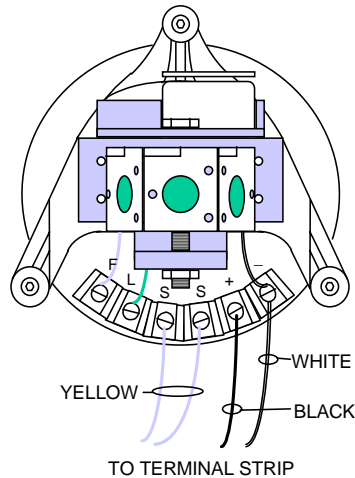
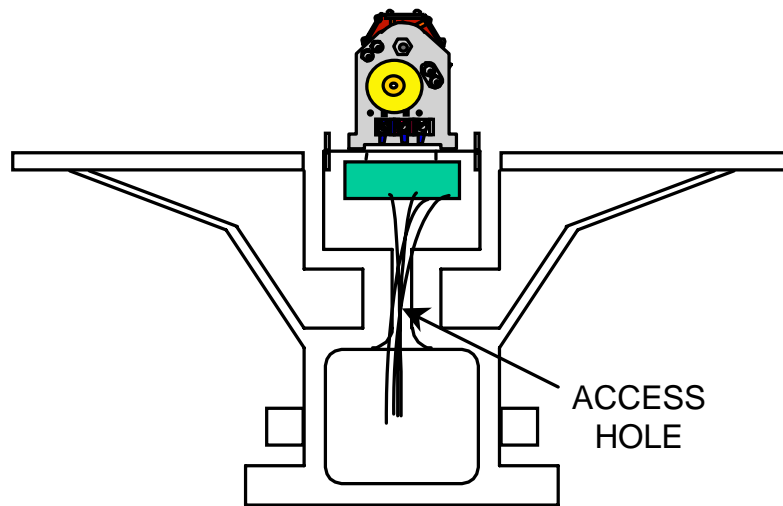

Figure 3-36
Figure 3-37
- (15) Attach the leads to the flasher as shown in Figure 3-36.
- (16) Make sure the springs are still in place in the flasher housing (inside beacon).
- (17) Pass the four wires from the flasher through the opening in the bottom of the flasher housing and pull the leads in the beacon base as the assembly is lowered, as shown in Figure 3-37.
- (18) Screw the Lampchanger Plate to the Flasher Housing with the 3 capscrews. The filament support shadow should face the non-critical area. Do not tighten capscrews.
- (19) Cut excessive wire from the flasher (leave enough to easily work on the Terminal Plate and strip ¼ inch from each lead).